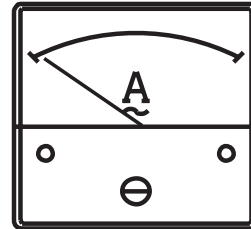

Figure 34. Ammeter (No Load)
9. The **ammeter** (Figure 34) will indicate **zero amps** with no load applied. When a load is applied, the ammeter will indicate the amount of current that the load is drawing from the generator.